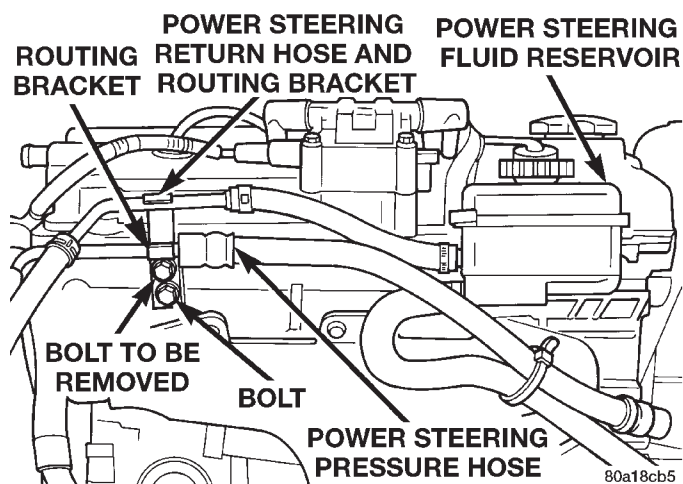

Fig. 18 2.4 Liter Power Steering Hose Routing
(6) If vehicle is equipped with a 2.4 liter engine, remove power steering pressure hose routing bracket from the power steering return hose routing bracket on rear of engine (Fig. 18). Then remove the bolt (Fig. 18) attaching the power steering pressure hose routing bracket to the cylinder head.
(6) Correctly route power steering return hose up to the power steering fluid reservoir, avoiding tight bends or kinking of the hose.
(7) **If vehicle is equipped with a 2.4 liter engine,** install power steering return hose routing bracket on rear of cylinder head (Fig. 18) and securely tighten bolt. Then install the power steering pressure hose routing bracket on the return hose routing bracket (Fig. 18) and securely tighten attaching bolt.